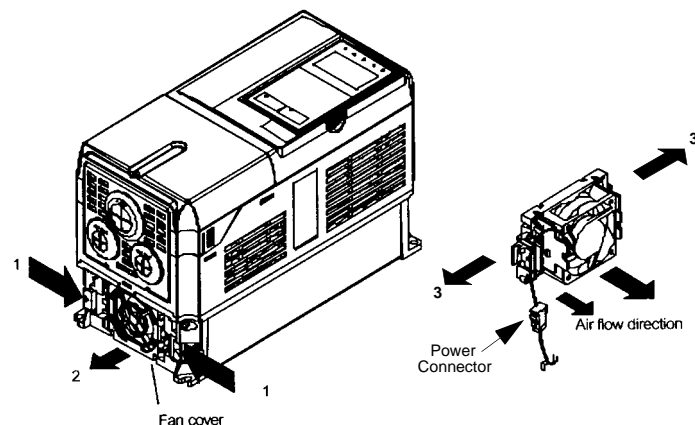

Fig 7.1 Cooling Fan Replacement Procedure
3. Pull out the cable connected to the fan from the fan cover and disconnect the power connector. See Figure 7.1